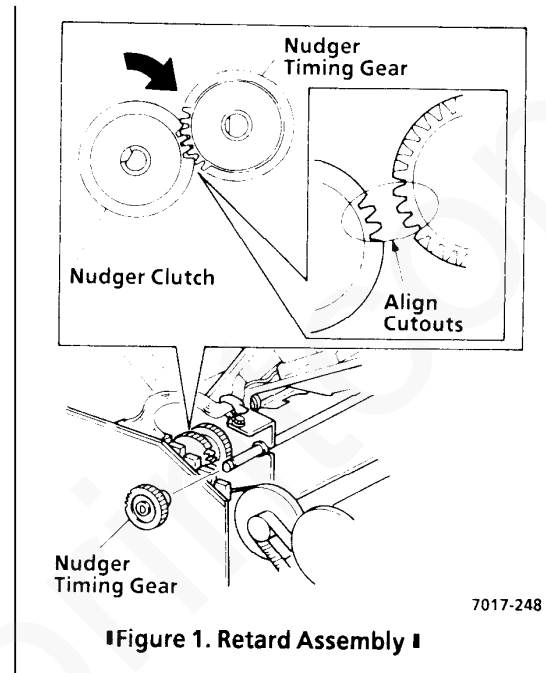

Figure 1. Retard Assembly
5. Remove retard assembly. (Figure 1)
6. Remove pad assembly. (Figure 1)
10. Remove nudger solenoid assembly. (Figure 1)
■Figure 1. Nudger Solenoid Assembly ■